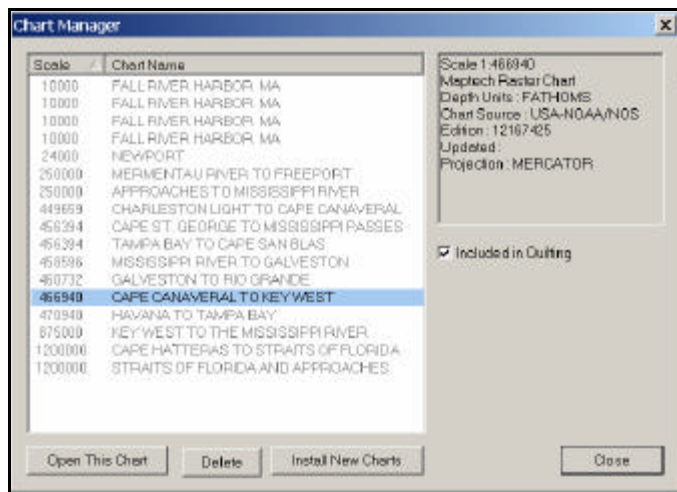

Figure 4-5. Chart Manager Screen 1 Showing Installed Charts
6. Highlight the charts you want to install (or click **Select All** to install every chart), then click **Install Now**. The progress of each chart's installation is shown. When the charts have been installed, Chart Manager screen 1 is redisplayed (Figure 4-5).